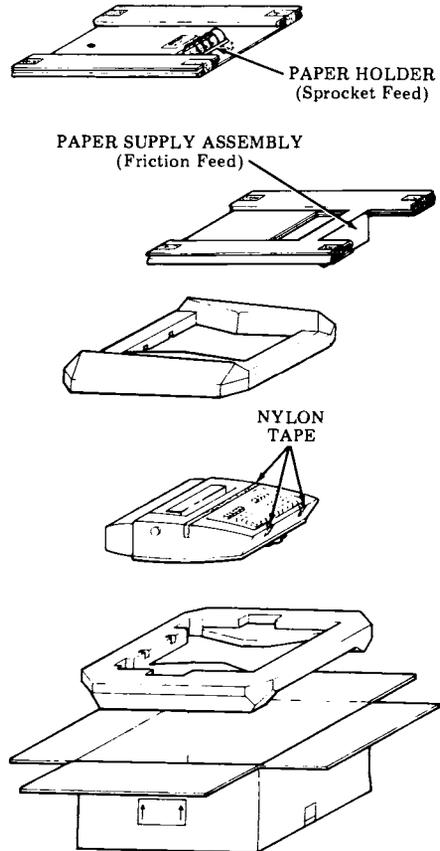

Fig. 12—Packing Details
4.04 Using the containers and packing details retained in 3.05, pack the 43 Teleprinter (Fig. 12).